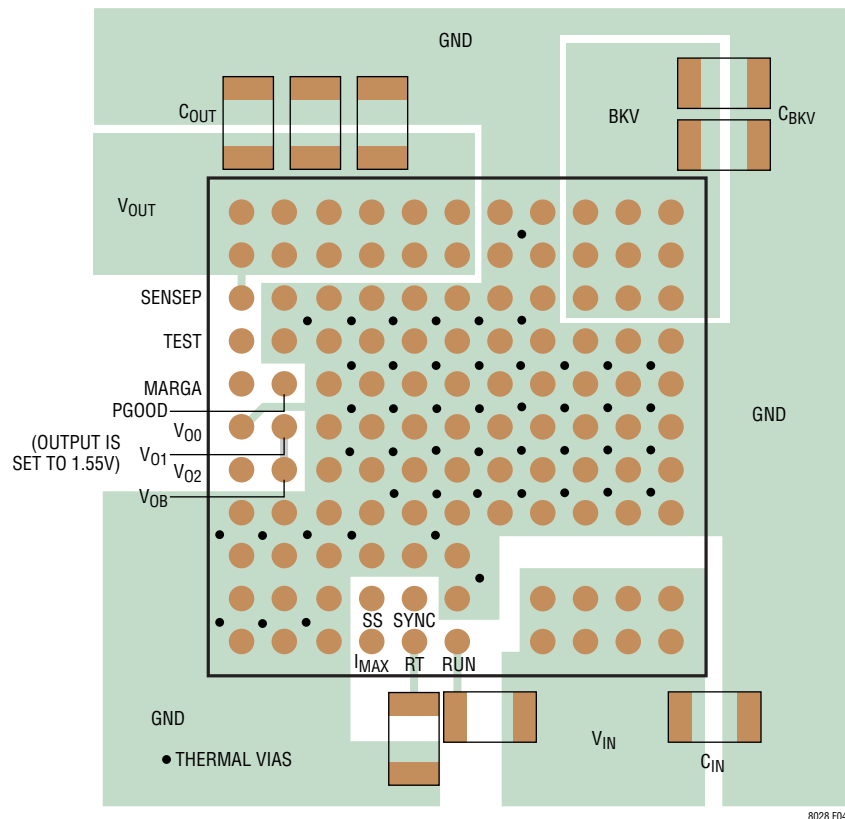

Figure 4. Layout Showing Suggested External Components, GND Plane and Thermal ViAs
minimize EMI and ensure proper operation. Even with the high level of integration, you may fail to achieve specified operation with a haphazard or poor layout. See Figure 4 for a suggested layout. Ensure that the grounding and heat sinking are acceptable.
6. Use vias to connect the GND copper area to the board's internal ground planes. Liberally distribute these GND vias to provide both a good ground connection and thermal path to the internal planes of the printed circuit board. Pay attention to the location and density of the thermal vias in Figure 4. The LTM8028 can benefit from the heat sinking afforded by vias that connect to internal GND planes at these locations, due to their proximity to internal power handling components. The optimum number of thermal vias depends upon the printed circuit board design. For example, a board might use very small via holes. It should employ more thermal vias than a board that uses larger holes.